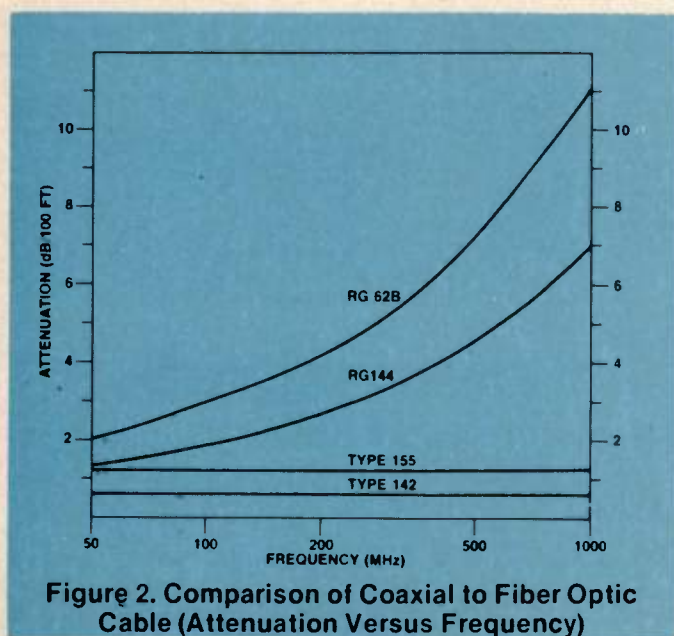

Figure 2. Comparison of Coaxial to Fiber Optic Cable (Attenuation Versus Frequency)
- Fiber optic cables exhibit lower attenuation, frequency independency and better temperature stability as compared to coax. (See Figure 2.)